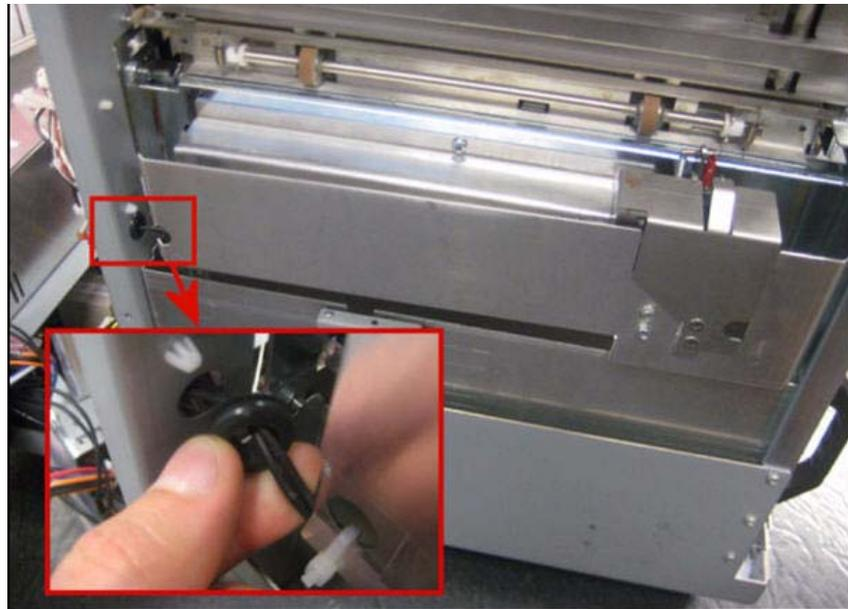

Figure 4.41 Removal of Grommet
**Note:** If replacing the back gauge, make certain to save the black grommet from the original back gauge that is referenced in Figure 4.41. [Removal of Grommet]